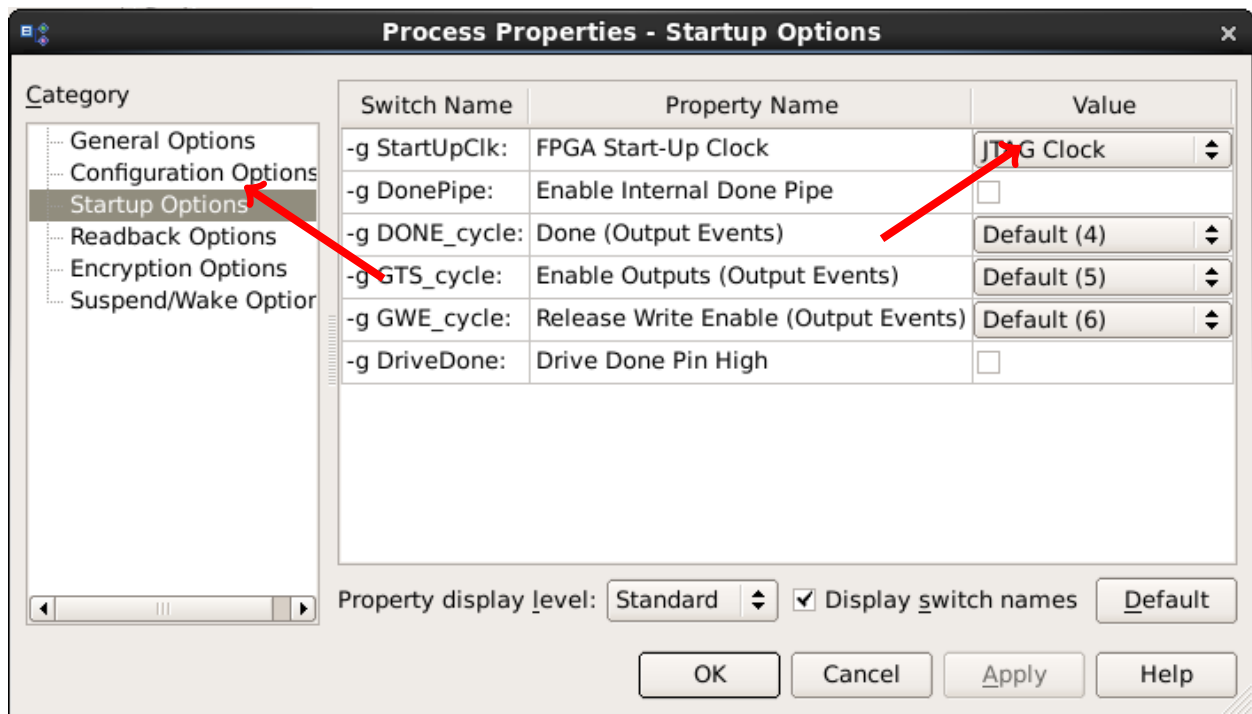

Figure 22: Setting the startup clock in the Process Properties window.
3. Right click on Generate Programming File and choose Process Properties. A window (Figure 22) will appear.